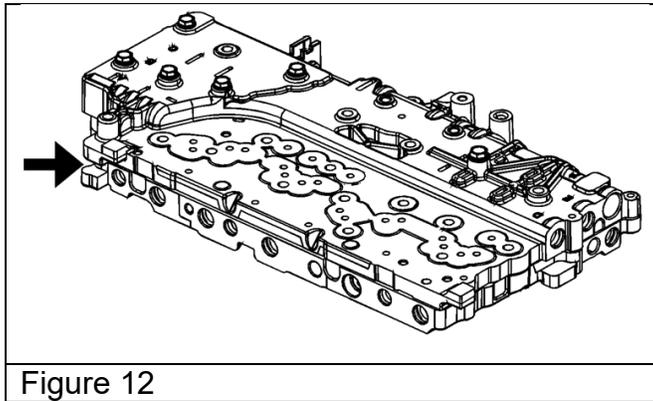

Figure 12
15. With the upper valve body (transmission side) facing down, separate the lower valve body at the point indicated by an arrow in Figure 12.